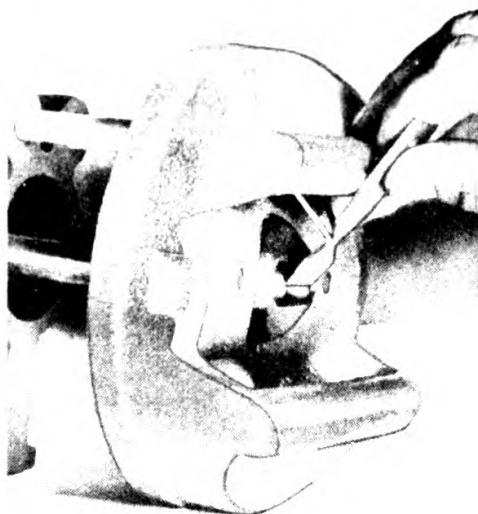

Fig. 129. Checking Electrode Points with Electrode Gage.
(4) Check the placement of the electrode points with the electrode gage to be found in the tool box on the frame of the generator. Place the large end of the gage so that each corner rests on the nozzle hole. Points should fit into the open "V" at the center of the gage. (See fig. 129.)